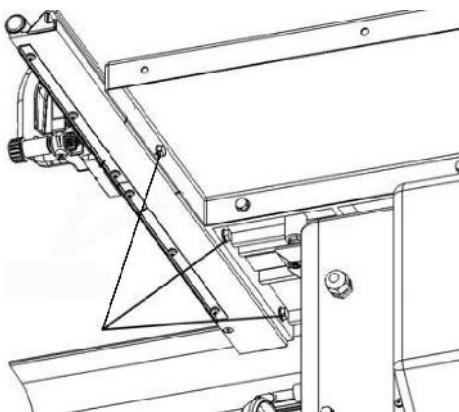

Fig. 7
- Set 3 pcs 4-kant M8x25 screws from the outside into the worktop. (Fig. 7)
- Slide the guide rail as shown on Fig.7 with the profile on the screws.